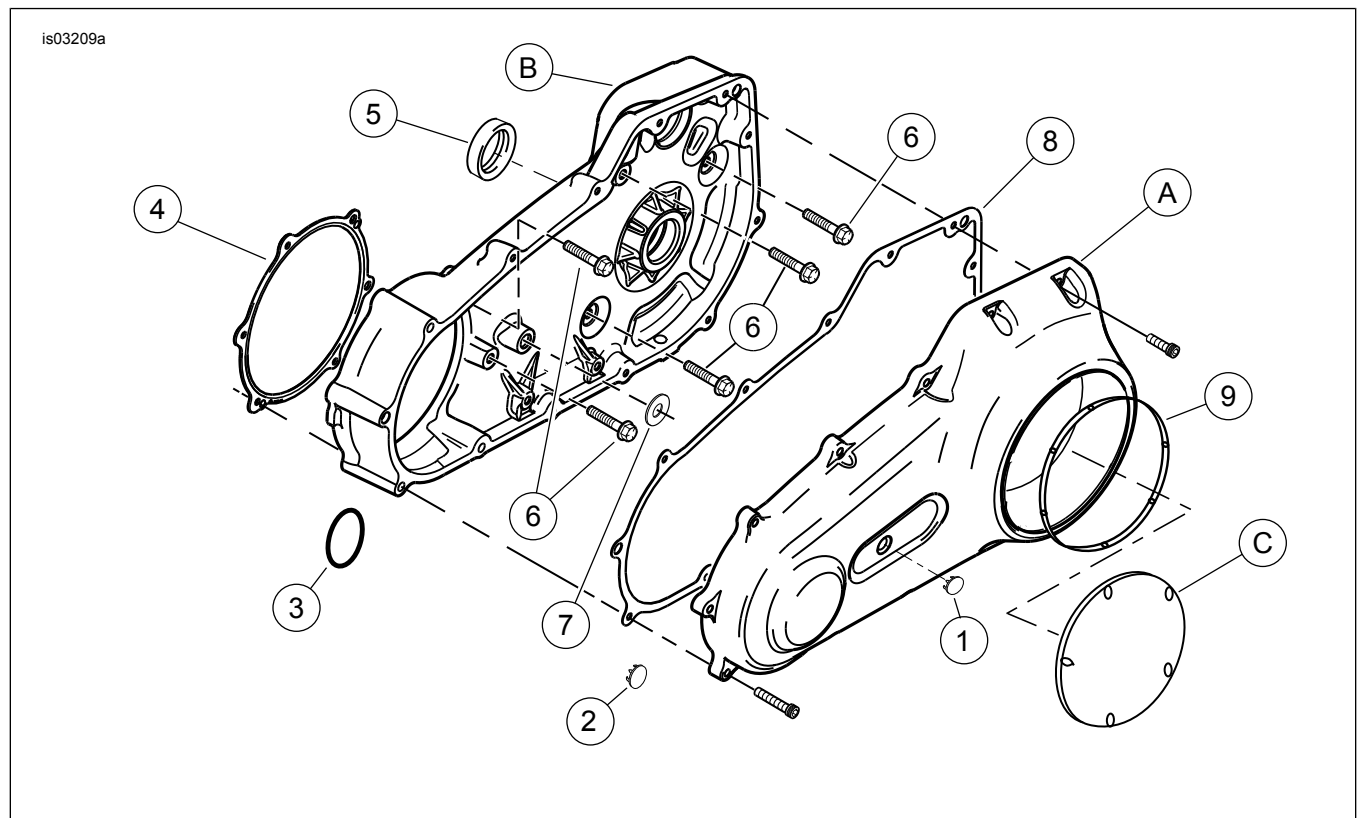
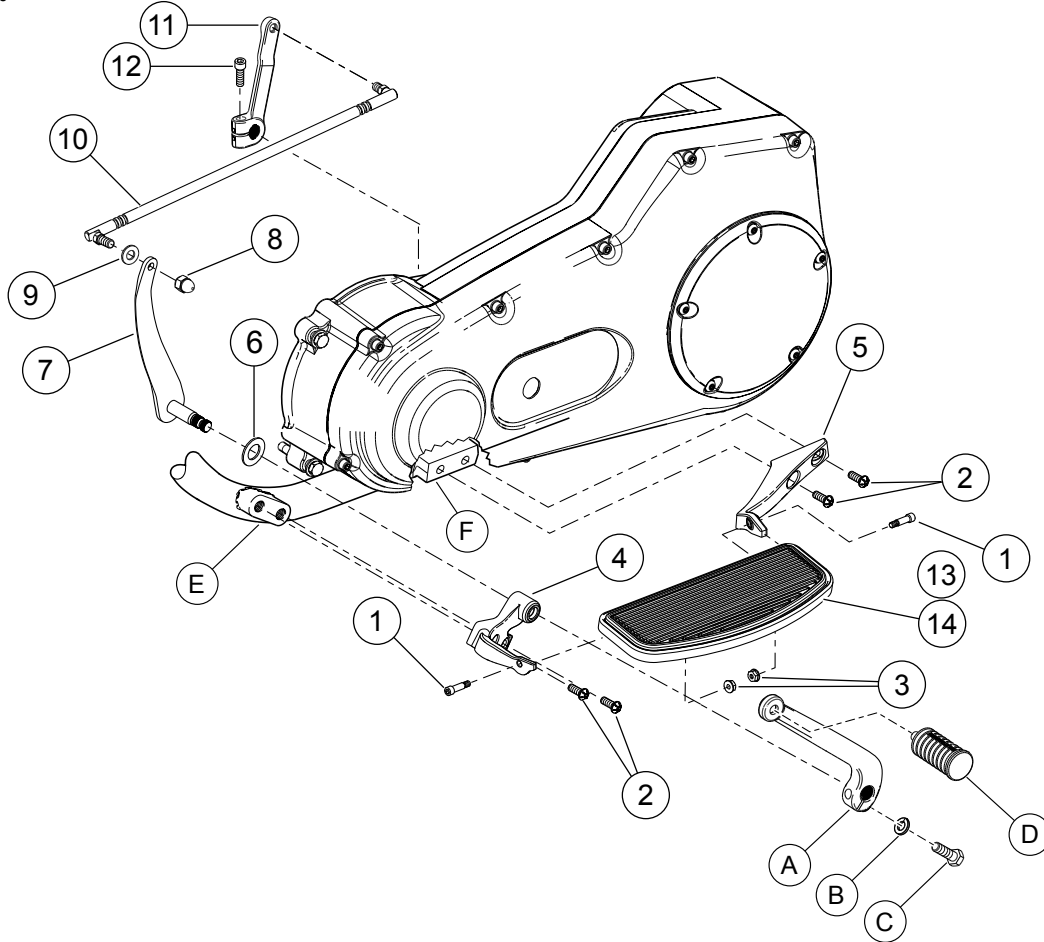

Figure 3. Primary Chaincase Cover and Housing Components
Figure 4. Dyna Rider Footboard Kit
See Figure 3, Figure 4, Figure 5 and Table Reference.
3. See Figure 4. Remove plugs from forward frame footboard mount (E) and discard plugs.
4. See Figure 4. Remove the foot shifter lever (A) and shifter peg (D). Save the foot shifter lever and shifter peg and hardware for future installation.
5. See Figure 3. See service manual and remove the outer cover assembly (A) and inner cover assembly (B).
- a. Using a marking tool, draw a location marking (4) on the end of the splined shaft (2) across from the casting split (3). This will allow the new gear shifter lever to be installed in the same orientation as the old lever.
- b. After marking the gear shifter lever orientation, loosen the lever bolt (5) and remove the gear shifter lever (1).
- d. See Figure 4. From the kit, install the new gear shifter lever (11) and bolt (12) onto the splined shaft in the same orientation as the old shifter lever.
7. See Figure 4. Install the front and rear footrest brackets (4 and 5) to the frame using the buttonhead TORX® screws (2). Tighten screws to 33.9–47.5 N·m (25–35 ft-lbs).
8. See Figure 4. Install the front inner gear shifter (7) and washer (6) to inside of the front footboard bracket.
9. Install the previously saved gear shifter (A) with a coat of light lubricant. Install washer (B), screw (C), and shifter peg (D) to the gear shifter. Tighten screw (C) to 9.5–12.2 N·m (7–9 ft-lbs).
10. Using a small amount of Loctite 243, install the new shifter rod assembly (10) onto the gear shifter lever (11). Also install washer (9) and acorn nut (8) to inner gear shift assembly (7). Tighten acorn nut (8) and rear of shift linkage (10) to 10.8–16.3 N·m (8–12 ft-lbs).
12. See Figure 3. Put inner primary cover (B) and primary cover (A) in position and check for proper clearance with shifter linkage components.
16. See Figure 3. See service manual. Install primary cover using new gaskets from the kit.
17. See Figure 4. Install footboards (14) to brackets (4 and 5) using shoulder bolts (1) and flange nuts (3). Tighten screws to 20–27 N·m (15–20 ft-lbs).